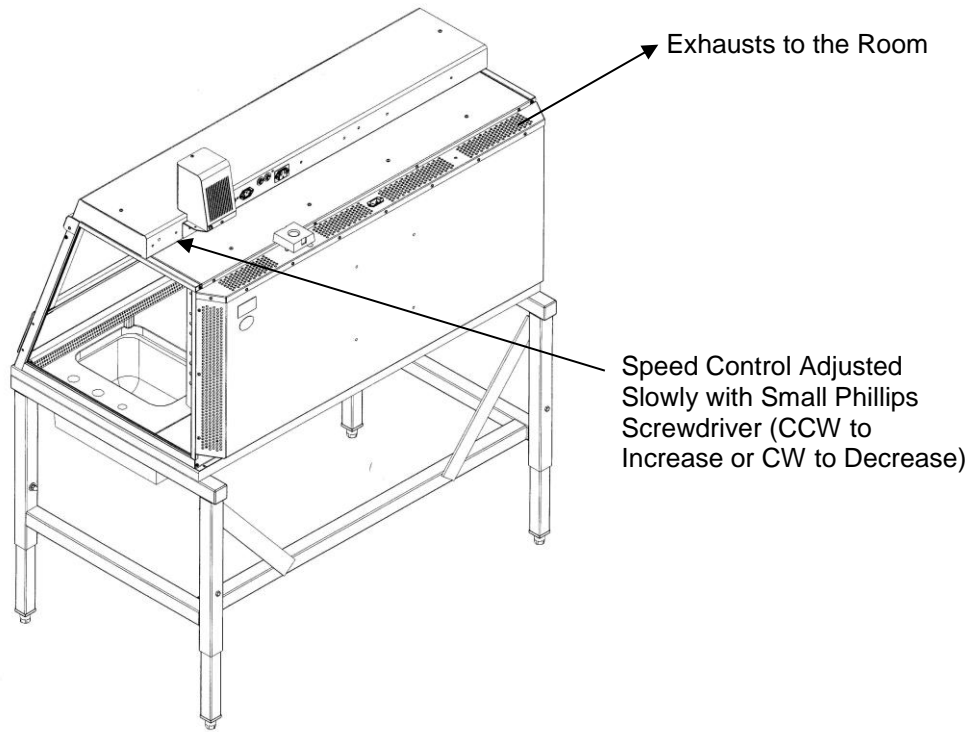

Figure 6-1
1. The speed control is located behind the switched control panel. See Figure 6-1.